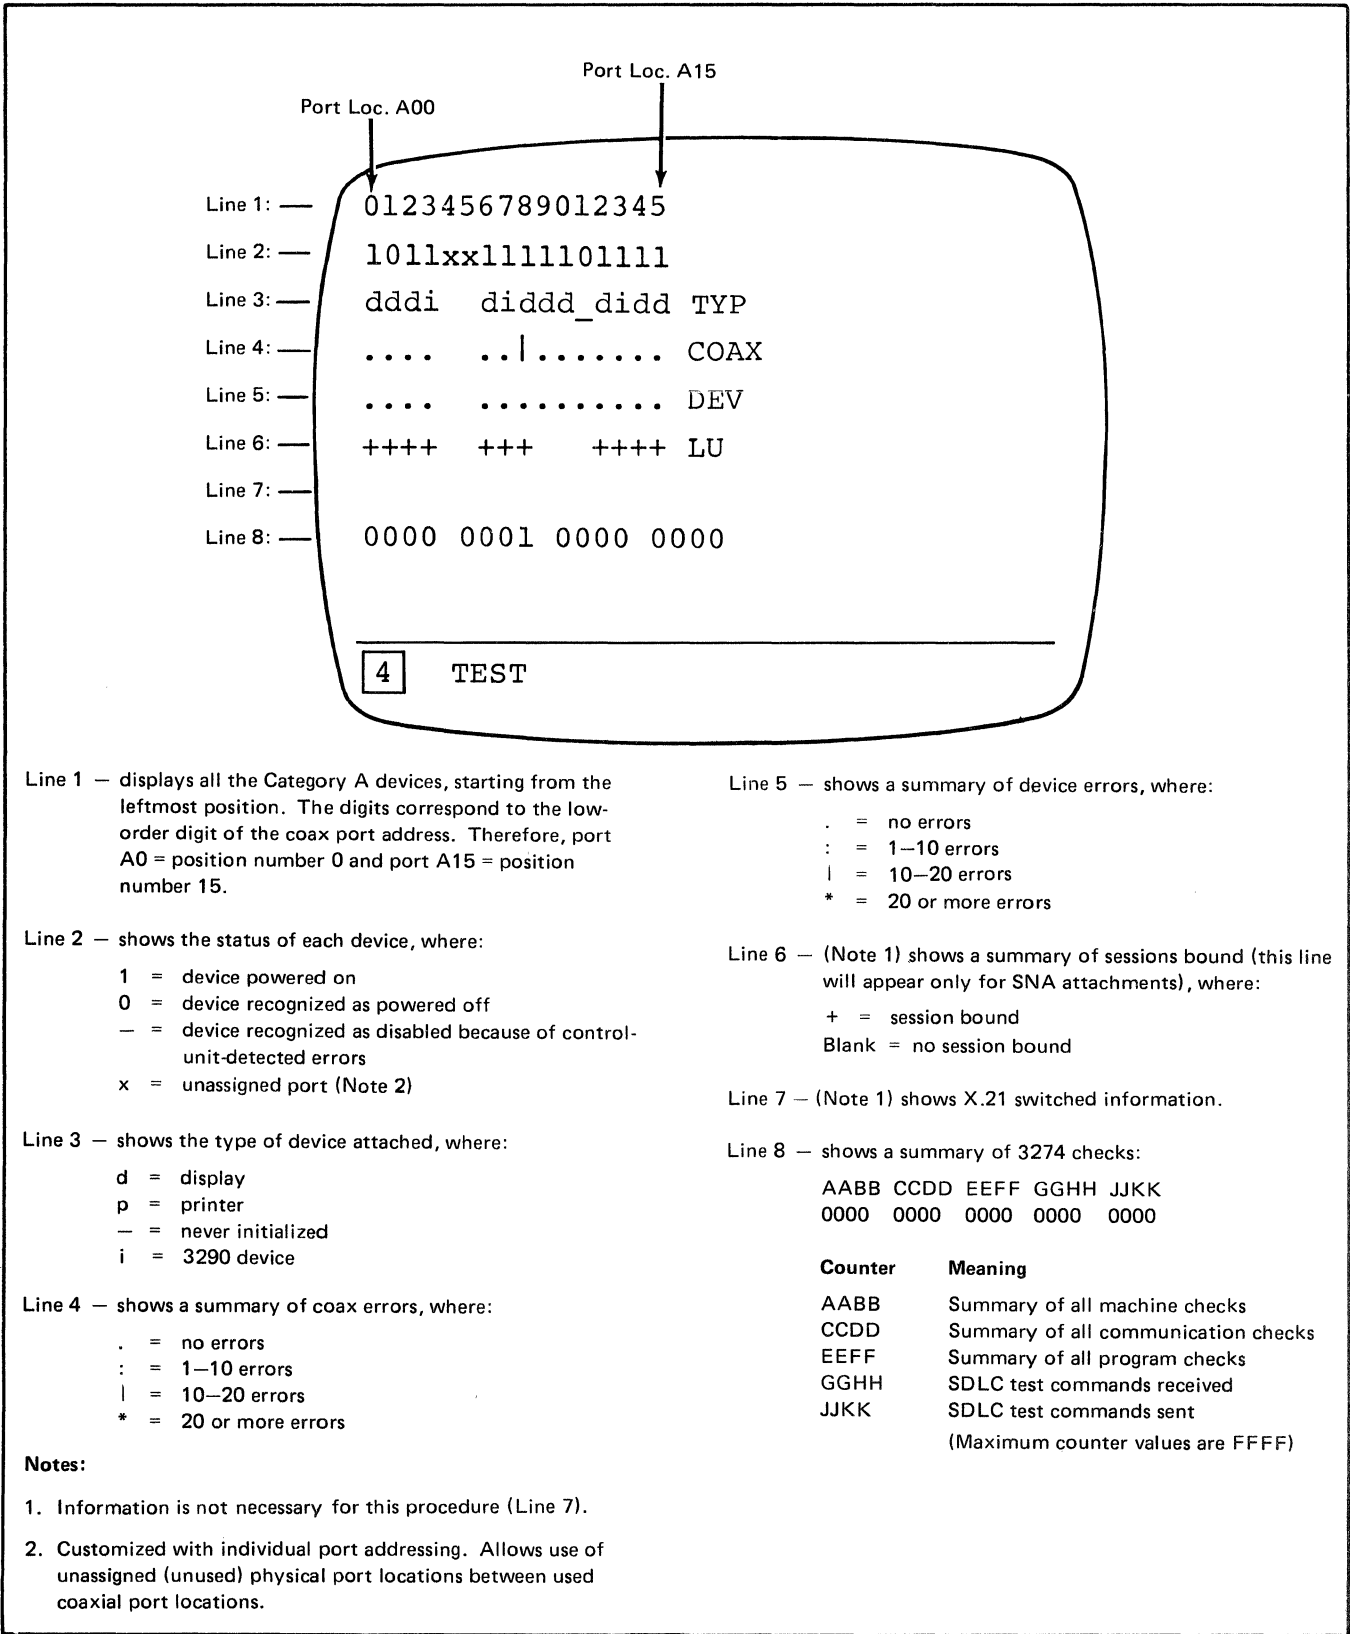

Figure 2-9. Test 3 Device Status
4. Examine the display. It should be similar to that in Figure 2-9, Test /3 Device Status.